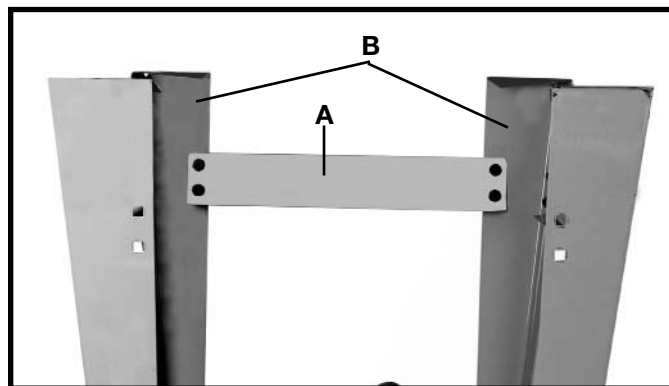

Fig. 15
19. Align the four holes in the long brace (A) Fig. 15, with the four holes in the two legs (B).